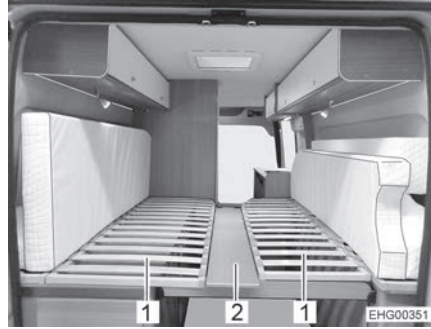

Fig. 35 Middle board
- Lower the bed base (Fig. 35,1) on both sides.
- Attach the middle board (Fig. 35,2).
- Remove the middle board (Fig. 35,2) and the crossbeam (Fig. 32,1) and put them on one of the mattresses.